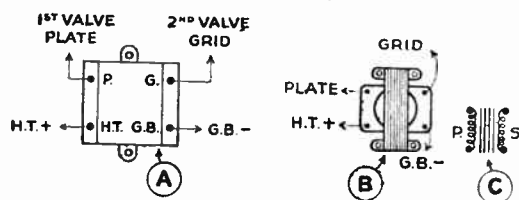

Fig. 1—Directly coupled transformers
Transformers are often used to couple one valve to the next and the most popular transformer for this purpose is shown at (A) in Fig. 1. The shape and
Small or old-fashioned transformers may merely have 'P' by one pair of tags or terminals and 'S' by the second pair. This stands for Primary and Secondary. The leads should be connected as shown at (B) in Fig. 1, secondary connections being reversed over if necessary, as explained.
ings, the primary and secondary, as shown at (C) in Fig. 1. No connection exists between the two windings. (The lines between them indicate the iron core.) If a transformer with no markings, or with coloured leads, is to hand, tests for continuity can be made between the various ends. This will show which pairs of leads or tags are connected internally by the windings; one pair will be the primary, and the second the secondary, connections. If a meter is available, test the resistance of the windings. The lowest (about 2,000 to 5,000 ohms) will be the primary, and the other (about 5,000 ohms upwards) the secondary.
as follows: end nearest centre of bobbin is 'P' (A) in Fig. 1; next lead, slightly outwards, is 'H.T.'; third, slightly farther from core centre, is 'G.B.', and the outermost, near the edge of the bobbin, is 'G'.
A transformer of the type shown in Fig. 1 can be used. Transformers especially intended for feeding in this way are usually marked differently, 'C' being used for the condenser point, and 'E' for the earth, or H.T. negative, connection.